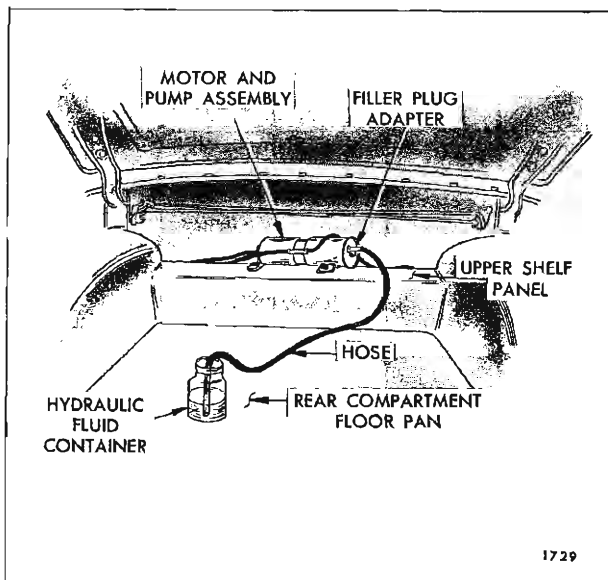

Fig. 13-71—Filling Reservoir with Hydraulic Fluid
**NOTE:** Container should be placed in rear compartment area on "A" bodies and rear floor pan on "B-C & F" bodies, below level of fluid in the reservoir. In addition, sufficient fluid must be available in container to avoid drawing air into hydraulic system (Fig. 13-71).